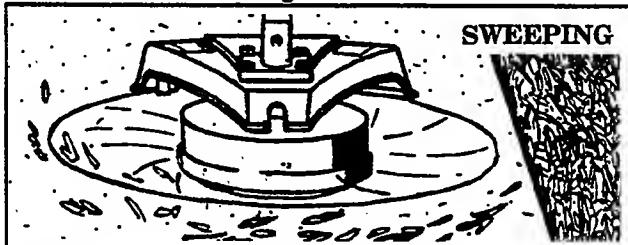

Figure 14
- SWEEPING** – Figure 14 . The fanning action of the rotating line can be used for a quick and easy clean up. Keep the line parallel to and above surfaces being swept and move tool from side to side.